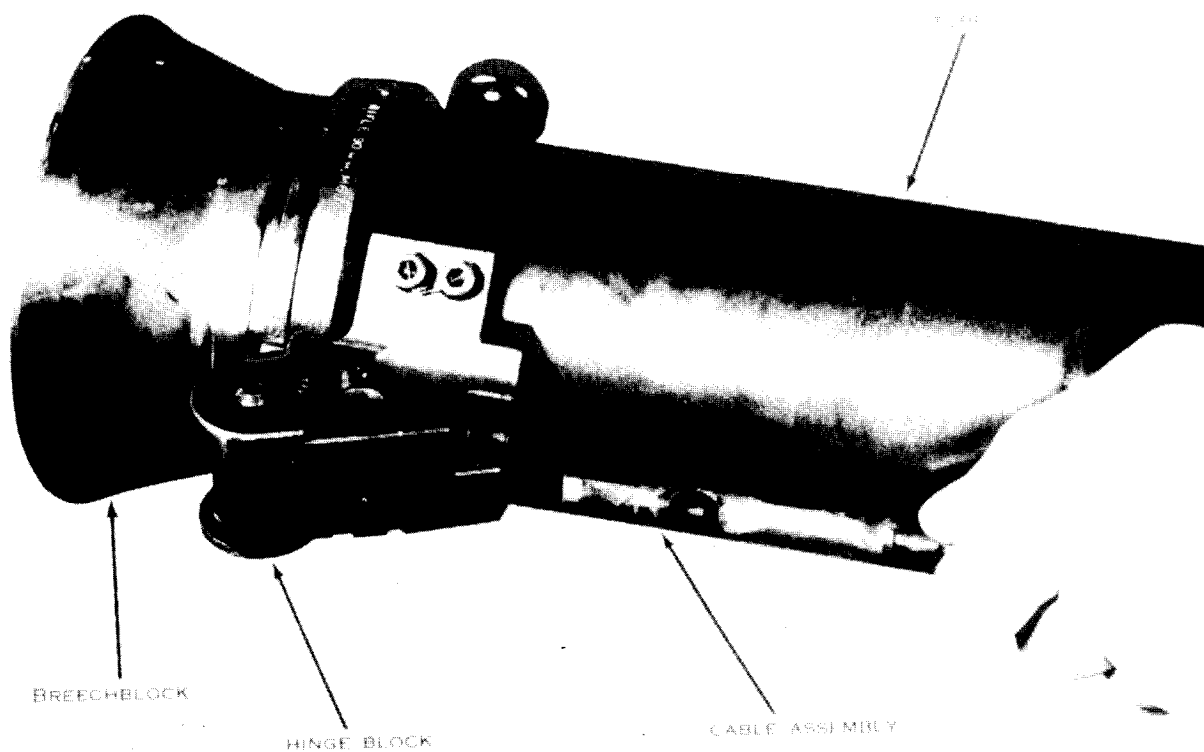

Figure 9. Removing and installing the cable assembly.
- (d) Pull the hinge block end of the cable assembly forward and remove it from the hinge block (fig. 9).